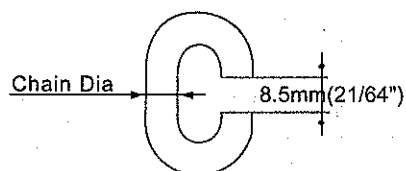

Figure 8 C-link
2. If you have a C-link of exactly the same size as the link chain, go to step (5).
4. By grinding or cutting, notch the link as shown in Fig. 8. Do not bend or distort the link.